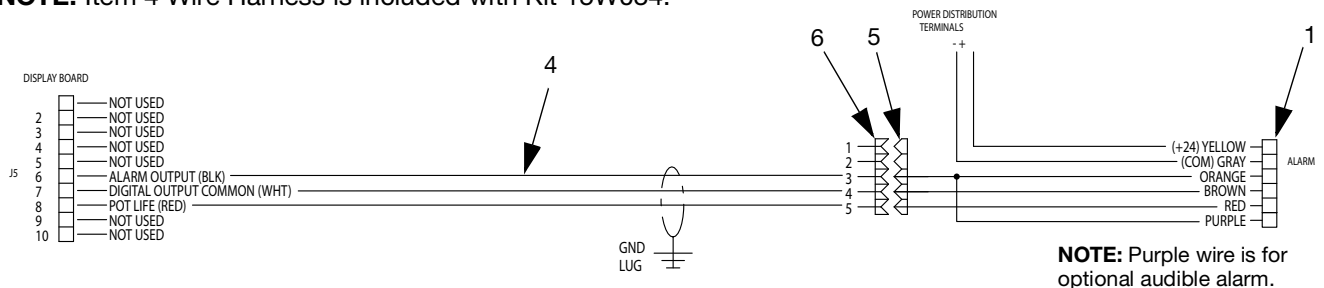

FIG. 6: 15W034 Beacon Tower Kit Wiring Diagram
- 5. Connect orange, brown, and red wires to header (5) pins 3, 4, and 5. See FIG. 6 on page 6.
- 6. To enable the optional audible alarm, connect purple wire to pin 3 on header (5). See FIG. 6 on page 6. When enabled, it will sound for all system alarms.